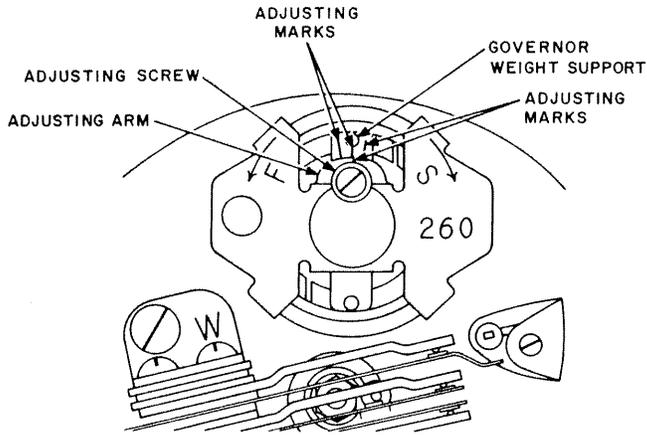

Fig. 12 — Dial Governor with 260 Tool in Place
- (1) Place 260 tool on dial governor (Fig. 12) to hold the movable parts.
- (2) Loosen governor adjusting screw enough to permit movement of the adjusting arm.
- (3) Move adjusting arm toward F (to increase speed) or toward S (to reduce speed), gauging the amount of movement by the adjusting marks (Fig. 12).
- (4) Tighten adjusting screw and remove tool.
- (5) With receiver on-hook, dial 0 and visually determine if desired change in speed has been realized.
- (6) Replace dial if speed cannot be adjusted to meet requirements.